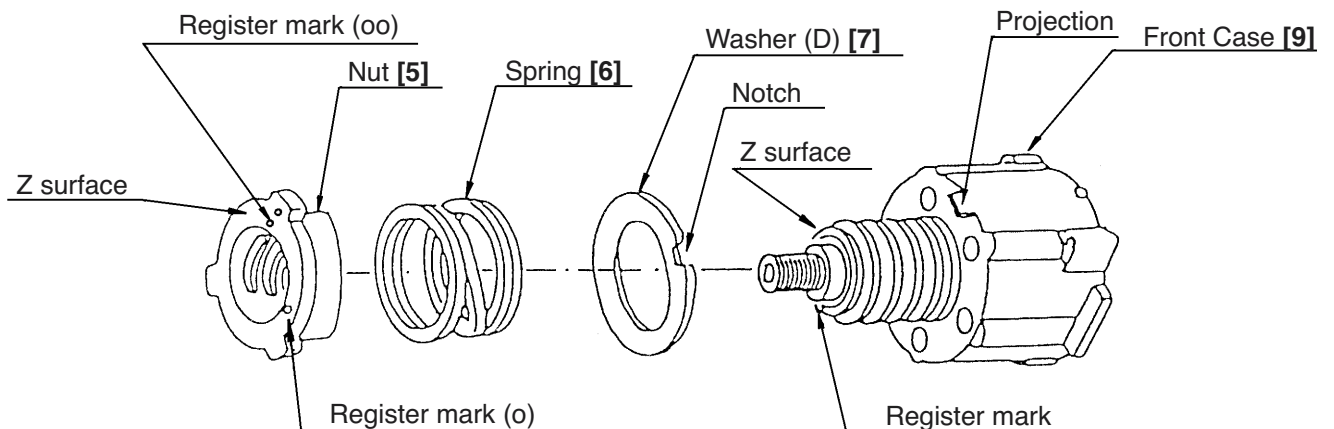

Fig. 8
(2) Reassembly of the clutch unit
(a) Mount Washer (D) [7] and the Spring [6] to the Front Case [9]. (See Fig. 8.)